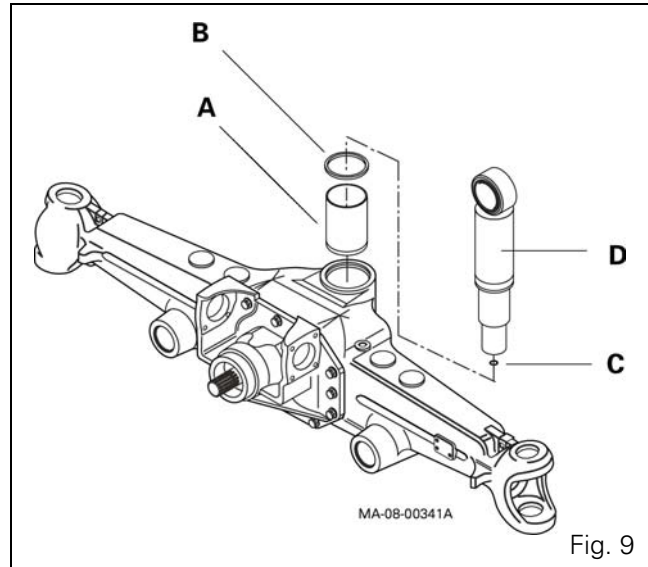

Fig. 9
9. Fit ring A, previously smeared with Loctite 510, in its position in the control ram housing (Fig. 9).